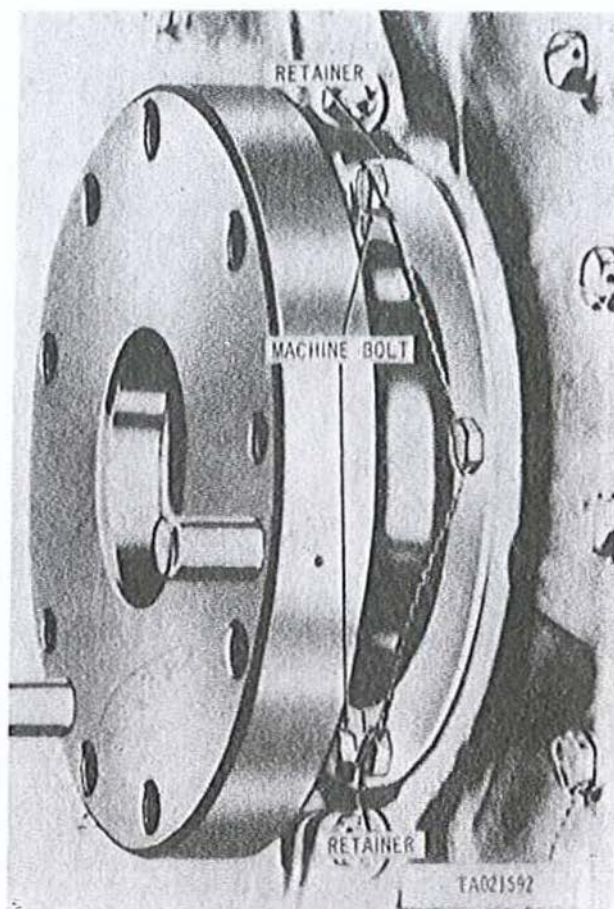

Figure 3-121. Removing or installing crankshaft oil seal retainers.
e. Cut locking wire and remove three bolts (fig. 3-121) attaching oil seal retainer to oil seal cap, and three bolts attaching oil seal retainer to oil seal housing and remove the two retainers.